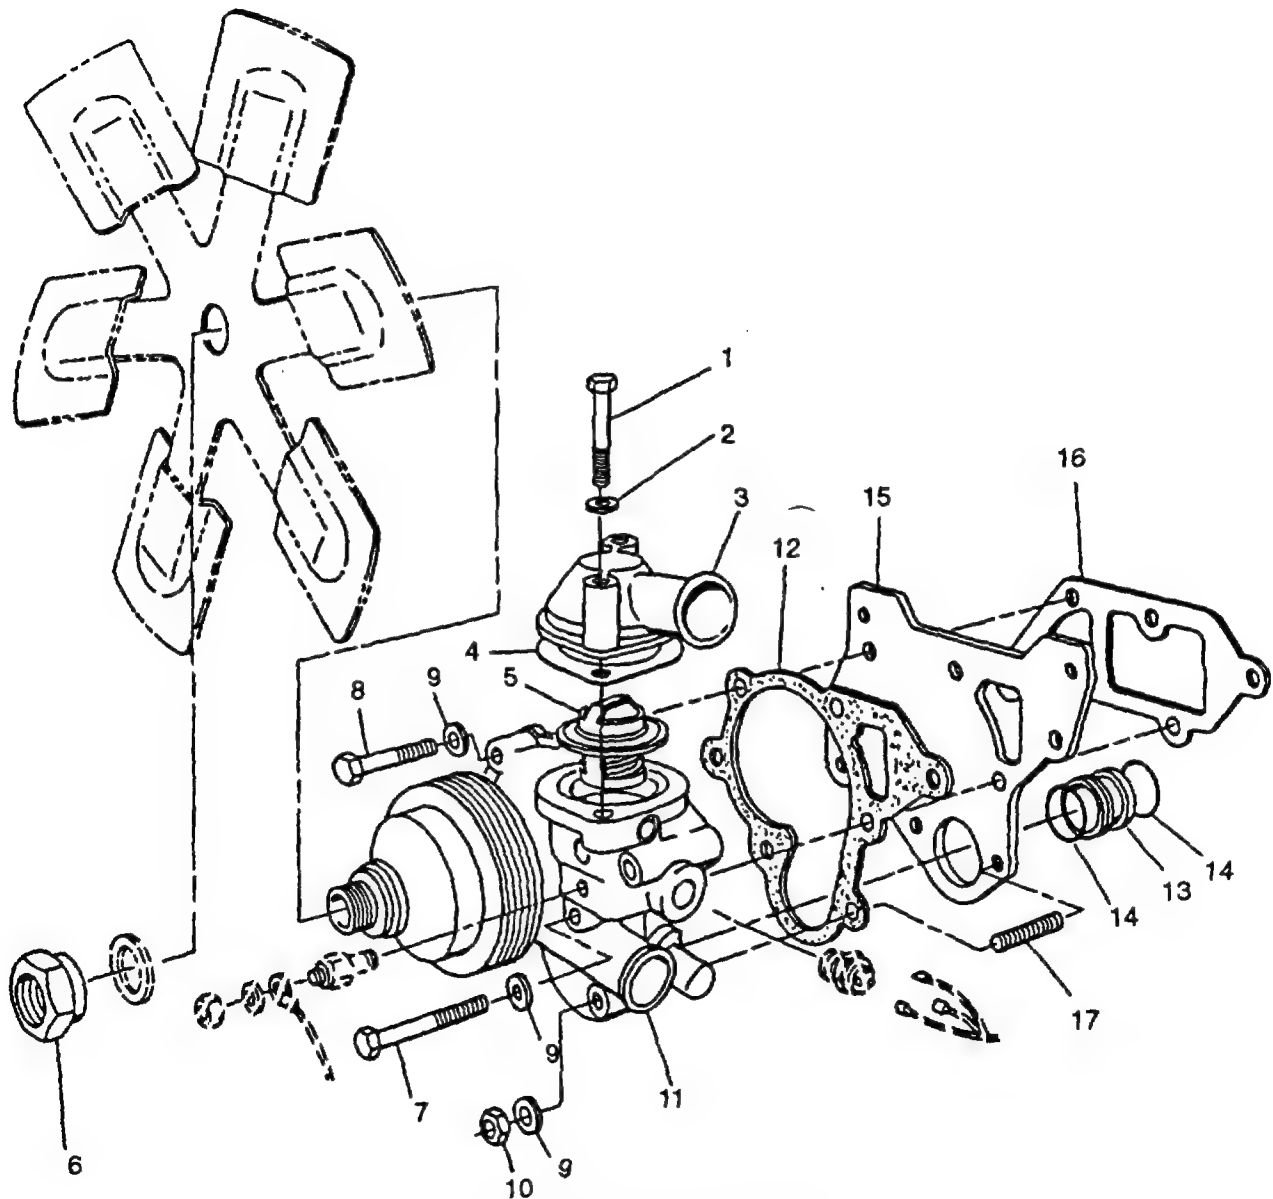

FIGURE 3-4. Cooling System
- c. Loosen hose clamp and disconnect outlet hose from thermostat housing (3 **FIGURE 3-4**).
- d. Remove two capscrews (1), washers (2), thermostat housing (3), and gasket (4). Discard gasket (4).
- e. Remove thermostat (5) from water pump.
- Clean any debris and traces of old gasket from thermostat housing (3, **FIGURE 3-4**) and water pump (11) mating surfaces. Dry all surfaces.
- Install thermostat (5) in water pump.
- Install new gasket (4), thermostat housing (3), two washers (2) and cap screws (1).
- Connect outlet hose to thermostat housing (3) and secure with hose clamp.
Nut (6, **FIGURE 3-4**) has left hand threads.
If two water pump studs (17, **FIGURE 3-4) have been removed, they must be installed and finger tightened. Do not overtighten as this will cause thread damage preventing a flat sealing surface.**